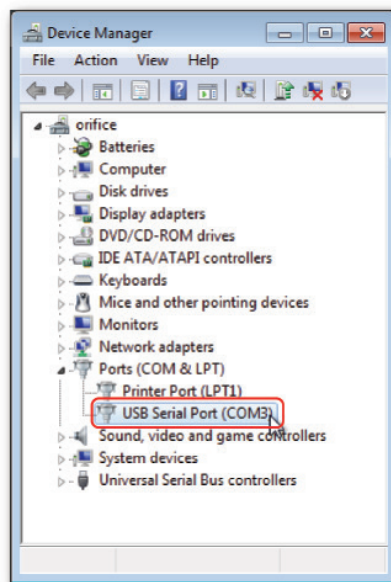

*Fig 2: Adapter for RJ45*
- RJ45-TERM (Gravitech.us) Fig 2